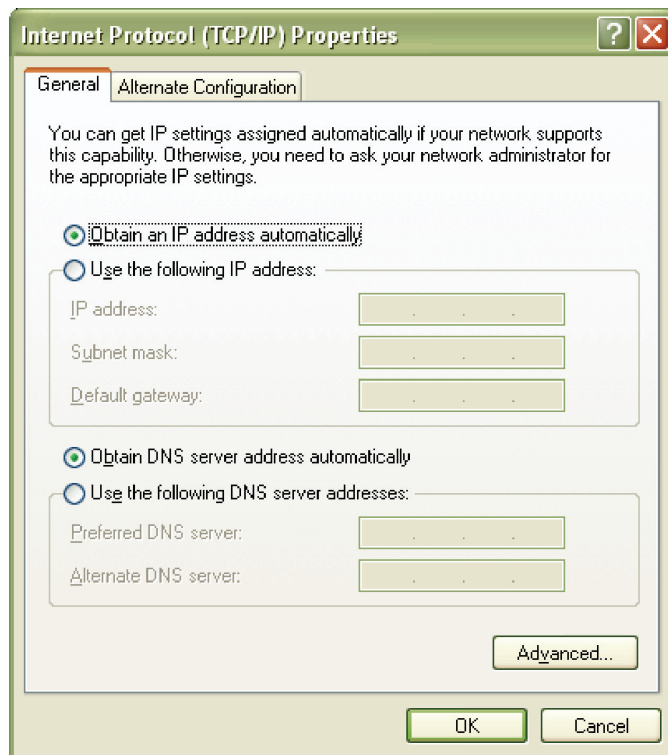

Fig. 38: The Internet Protocol (TCP/IP) Properties dialog box.
1. In the Windows **Start** menu, select **Control Panel | Network Connections | Local Area Connection | Properties** dialog. Under **This computer uses the following items**, highlight **Internet Protocol TCP/IP**, then click **Properties**. This will open the **Internet Protocol Properties** dialog box as shown in Fig. 38.